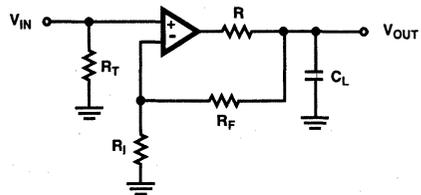

FIGURE 55. PLACEMENT OF THE OUTPUT ISOLATION RESISTOR, R
Capacitive loads will degrade the amplifier's phase margin resulting in frequency response peaking and possible oscillations. In most cases the oscillation can be avoided by placing an isolation resistor (R) in series with the output as shown in Figure 55.